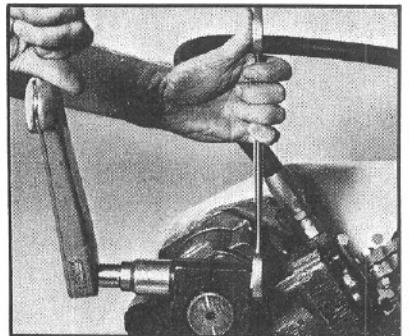

Figure 16
- 1.11 Insert the pitman arm clamp bolt and nut assembly, using a 3/4-16 grade 8 bolt (FIG. 16). If the bolt is lubricated or plated, torque it to 300-320 ft. lbs. If it is dry and unplated, torque it to 380-420 ft. lbs.